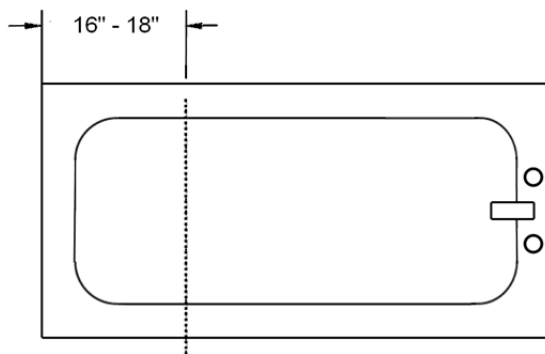
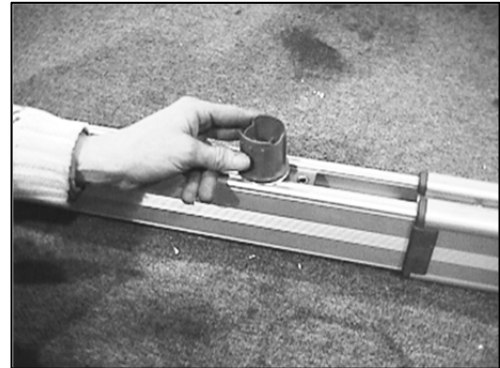

Figure 9
Figure 10
5. Slide the plastic post base so that it is approximately 16 - 18" from the end of the tub (see Figure 9 and Figure 10).